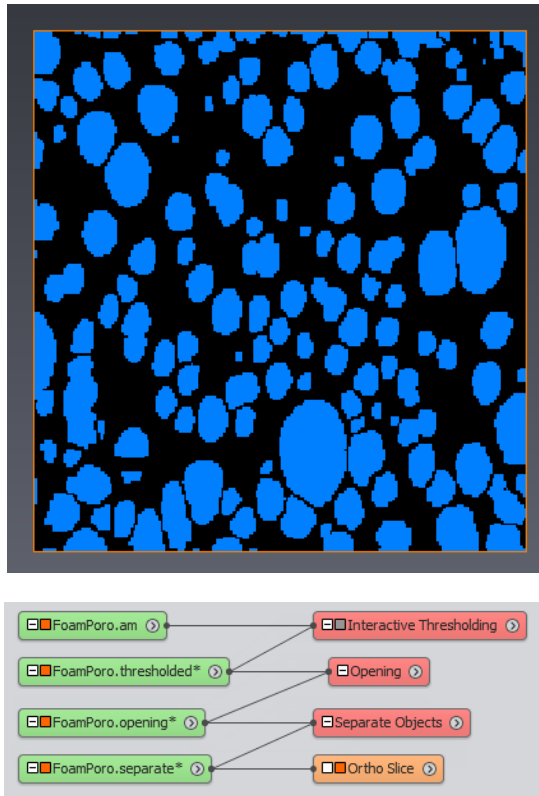

Figure 4.48: Separated pores
- Connect the *Ortho Slice* to the output `FoamPoro.separate` (see Figure 4.48).